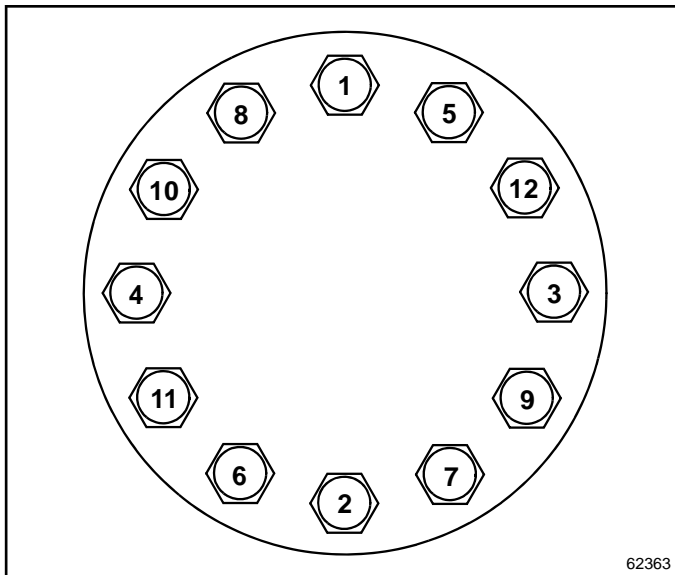

Figure 1-1: Circular Torque Pattern
- e. Tighten circular patterns using Figure 1-1, Circular Torque Pattern.